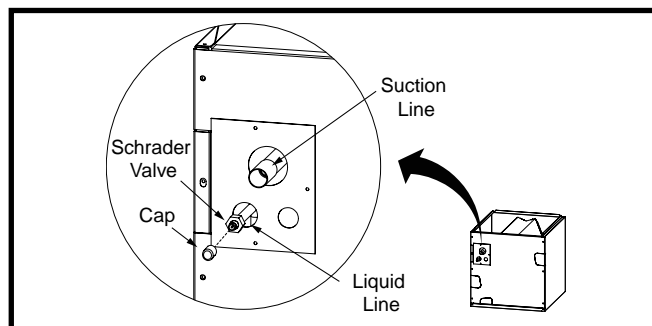

Figure 1. Suction and Liquid Line Locations
1. Remove the cap (Figure 1) from the end of the liquid line.